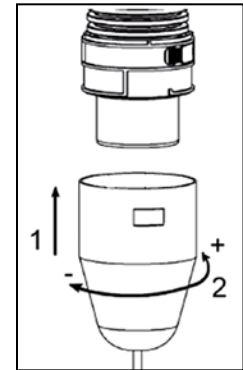

Figure 6 – Pull Cone
9. The optional pull cone installation aid (Part #8400P-013) must be connected using a bayonet connection with a rotating movement of $\frac{1}{4}$ turn to the right (+). Install the liner from the top. See Fig. 6.